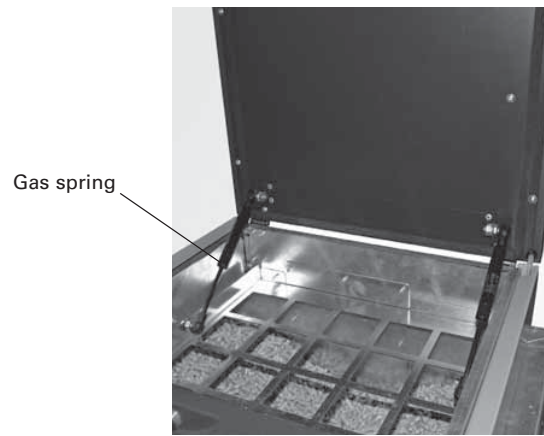
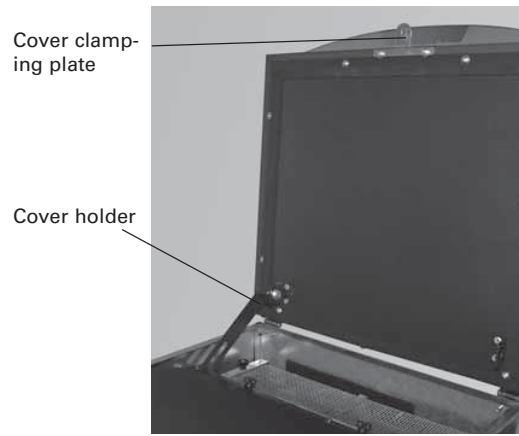

Fig. 24 Screwing on gas springs
Fig. 25 Screwing on the cover holder and cover clamping plate
- Screw on the gas springs for FireWIN with manual filling (Fig. 24) or the cover holder and cover clamping plate on the cover for FireWIN with fully automated pellet feed – Fig. 25.